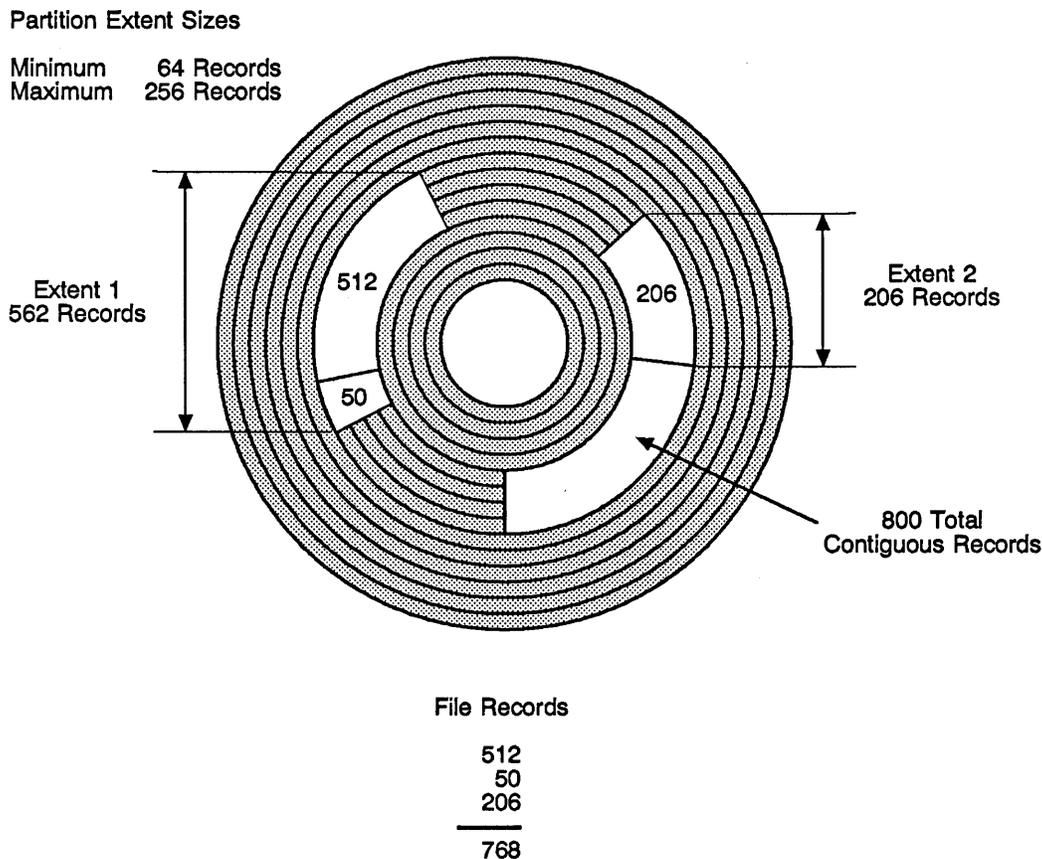

FIGURE 7-1. Allocation Example
**Allocation Example:** As an example of how the allocation algorithm works, assume there is a file that currently has a block of 512 records in one extent and is followed by a block of 50 records of available space. (See Figure 7-1.) Also assume that the default minimum and maximum extent size limits of 64 and 256 records are in effect and that the partition has additional unused space of 800 contiguous records.